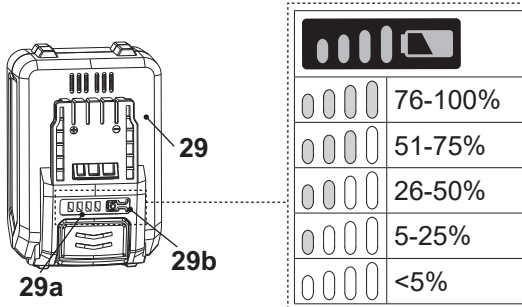

Fig. 18
The battery pack (29) is equipped with the battery capacity indicators (29a) which are used to give an indication of the battery pack's remaining capacity. Press the battery capacity button (29b) to check battery capacity (Fig. 18). The LEDs will stay lit for approximately 5 seconds.